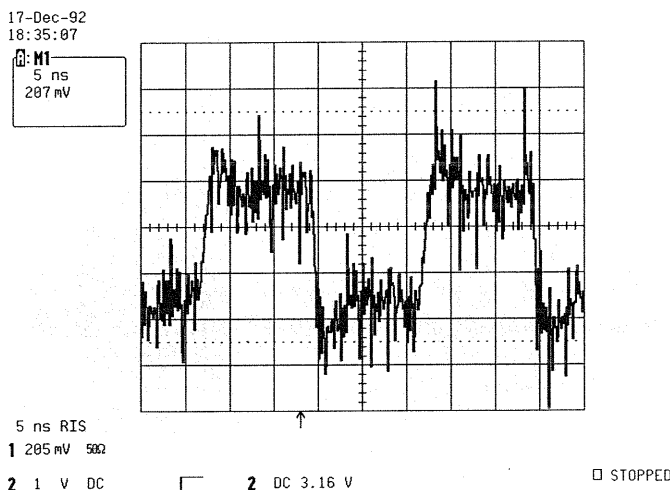

Figure 5: A Noisy Waveform
**Making Measurements in the presence of Noise:** In some cases, it is necessary to characterize a circuit under adverse conditions. This may occur early in the product design, when the issues of shielding and layout have not yet been fully addressed. Alternatively, circuit layout may make good grounding technique difficult. In either case, the noise present can dramatically mask the measurement. See Figure 5.